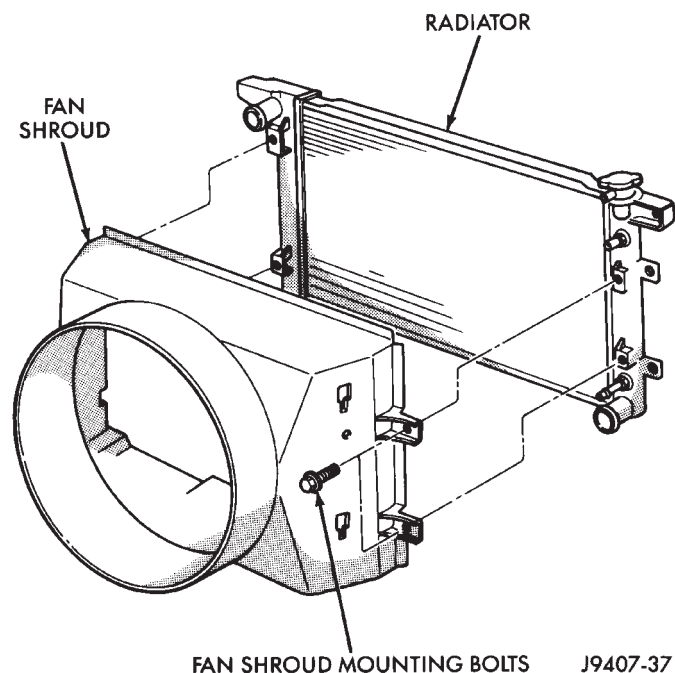

Fig. 81 Typical Fan Shroud Mounting
(10) Remove the four fan shroud mounting bolts (Fig. 81). Position shroud rearward over the fan blades towards engine.
(1) Position fan shroud over the fan blades rearward towards engine.
(2) Install rubber insulators to alignment dowels at lower part of radiator.
(3) Lower the radiator into position while guiding the two alignment dowels into lower radiator support. Different alignment holes are provided in the lower radiator support for each engine application.
(4) Install two upper radiator mounting bolts. Tighten bolts to 11 N·m (95 in. lbs.) torque.
(5) 3.9L V-6 or 5.2L/5.9L V-8 Engines: Position the rubber shields to the sides of radiator. Install the plastic clips retaining the rubber shields to the sides of radiator.
(6) Connect both radiator hoses. Refer to previous **CAUTION** and install hose clamps.
(7) Connect transmission cooler lines to radiator tank. Inspect quick connect fittings for debris and install until an audible "click" is heard. Pull apart to verify connection.
(8) Install windshield washer reservoir tank. Refer to Group 8K.
(9) Position fan shroud to flanges on sides of radiator. Install fan shroud mounting bolts (Fig. 81). Tighten bolts to 6 N·m (50 in. lbs.) torque.
(11) All engines: Install coolant reserve/overflow tank hose to radiator filler neck nipple.
(12) All Engines **Except 8.0L V-10:** Install coolant reserve/overflow tank to fan shroud (fits into T-slots on shroud).
(13) Install battery negative cables..
(15) Position heater controls to **full heat** position.
(16) Fill cooling system with coolant. Refer to Refilling Cooling System in this group.
(17) Operate engine until it reaches normal temperature. Check cooling system and automatic transmission (if equipped) fluid levels.